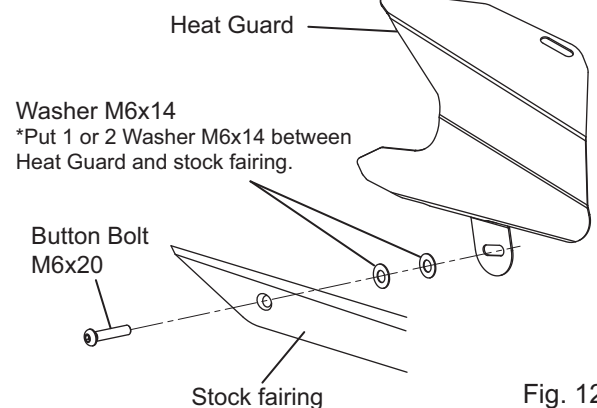

Fig. 12
**REFERENCE** In case there is no clearance between Heat Guard and stock fairing from the tolerance, replace stock bolt at front end to Button Bolt M6x20 and put 1 or 2 Washer M6x14 (See Fig. 12).